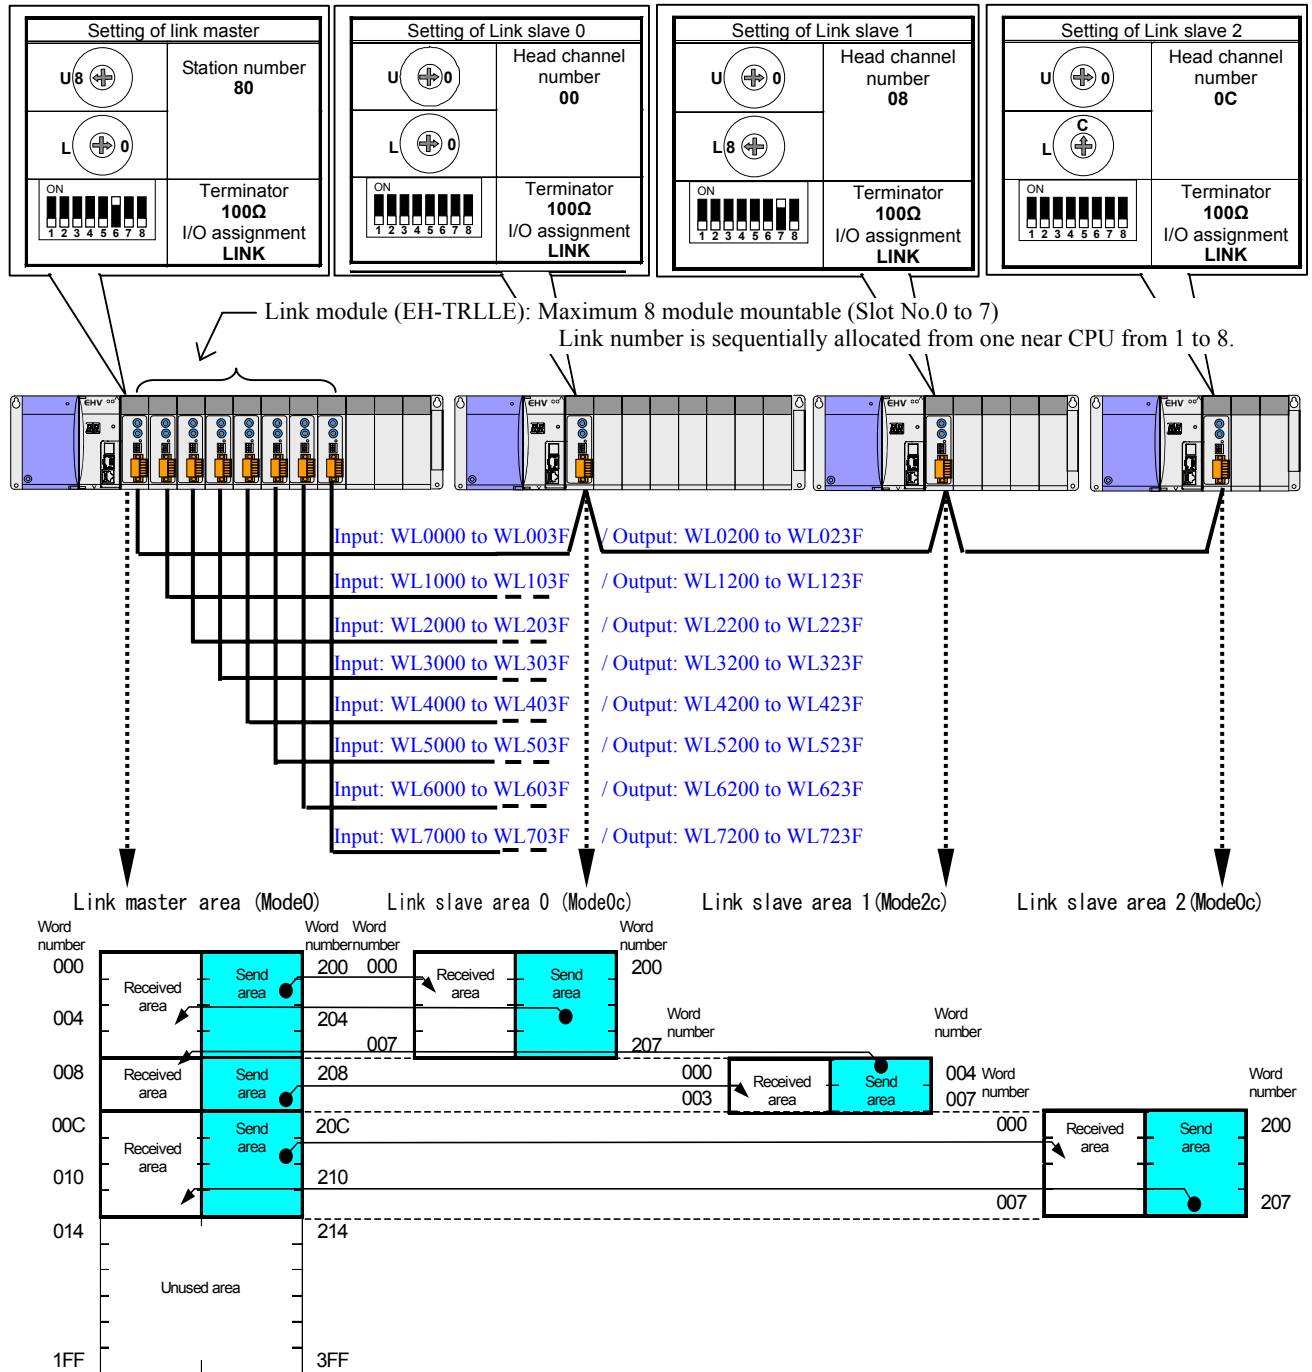
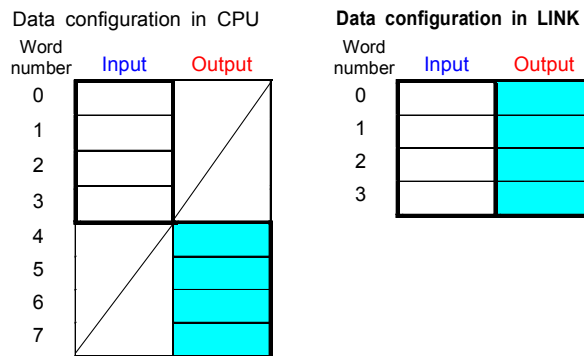

Figure 4.3.6 System configuration example (Slave: Mode0c/ Mode2c)
Figure 4.3.7 Data configuration with the operation mode "Mode2c"
Figure 4.3.6 is the system configuration example that master station is set to Mode0 and slave stations are set to Mode0c or Mode2c as operation mode. Refer to section 3.1 for the setting method of the compatible mode.
- 2) When the slave station is set the rotary switches to the operation mode "Mode0c", the head channel number is the head number of the link area (in the case of figure 4.3.6: WL0), and the module occupies 8 channels from head channel. In this mode, the output area of the slave station sets the link area from WL200 to WL207 by link parameter. So, the input area owns link area from WL0 to WL7. There are the inputs of 128 points and the outputs of 128 points.
- 3) When the slave station is set the rotary switches to the operation mode "Mode2", the head channel number is the head number of the link area (in the case of figure 4.3.6: WL0 and WL4), and the module occupies 4 channels from head channel. In this mode, the output area of the slave station sets the link area from WL4 to WL7 by link parameter. So, the input area owns link area from WL0 to WL3. In this mode, output area is compacted in the module, and the link area is assigned the channel number from 0 to 3 shown to Figure 4.3.7. So there are the inputs of 64 points and the outputs of 64 points.